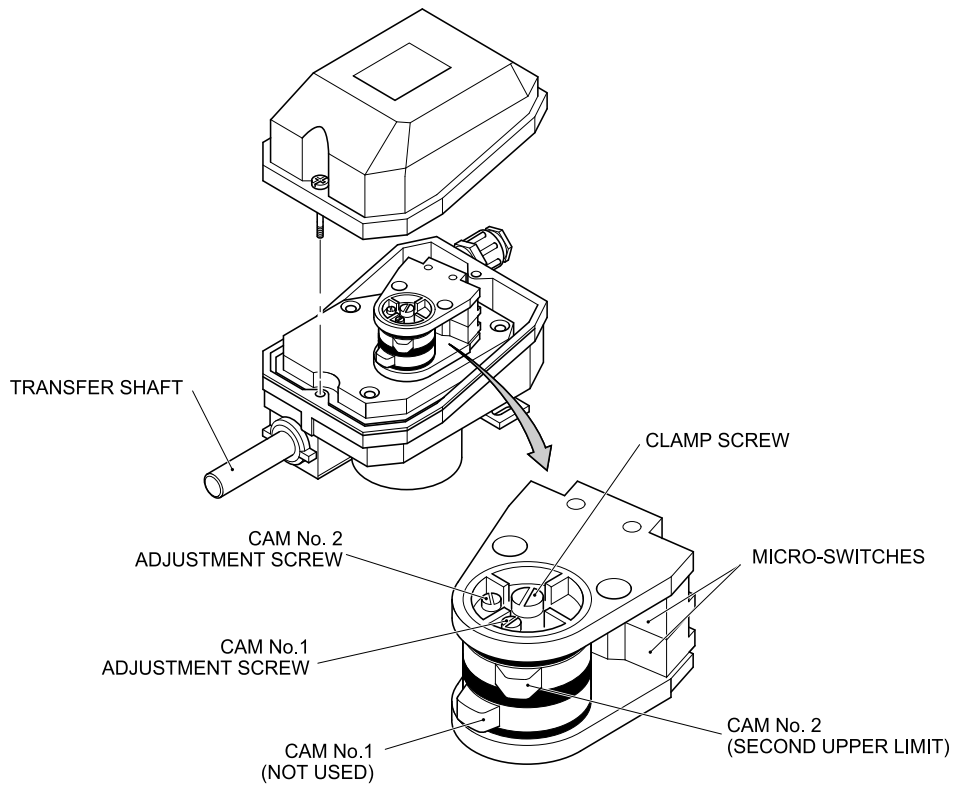

Figure 35 – Setting the Ultimate Upper Limit Switch – Rotary Type
- Remove the lid from the second upper limit and loosen the central clamp screw (see Figure 35).